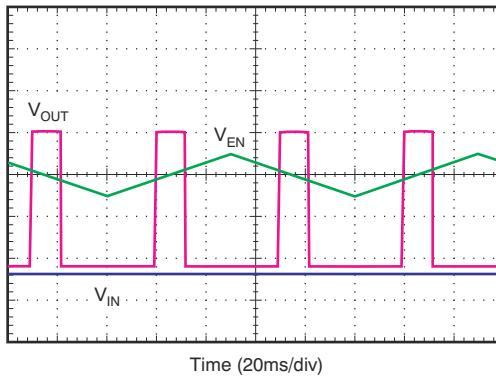

図 7-1. Enable Pin Positive and Negative Threshold
The TPS7H1210-SEP provides a dual-polarity enable pin (EN) that turns on the regulator when  $|V_{EN}| > 2$  V, whether the voltage is positive or negative, as shown in 図 7-1. Specifically, if  $V_{EN} \geq V_{EN(+HI)}$  or  $V_{EN} \leq V_{EN(-HI)}$ , the regulator is enabled. If  $V_{EN(+LO)} \geq V_{EN} \geq V_{EN(-LO)}$ , the regulator is disabled.